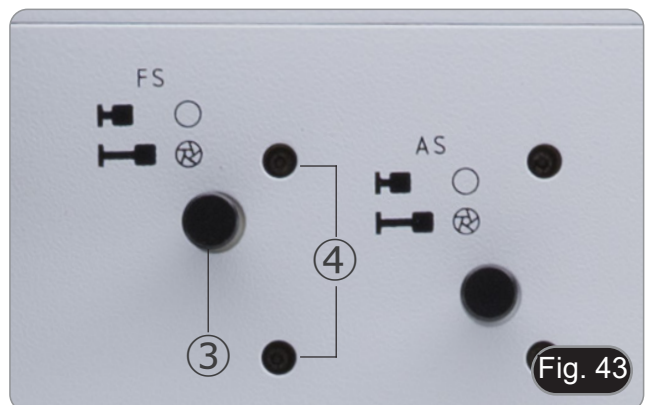
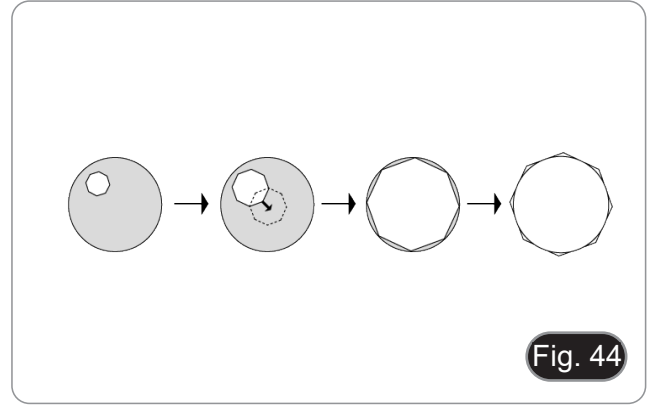

Fig. 43
Fig. 44
3. Completely pull out the field diaphragm selector ③ to fully close the diaphragm. (Fig. 43)
4. Using the provided Allen wrench use the two centering screws ④ to bring the bright spot in the centre of the field of view.
5. Gradually open the diaphragm. The condenser is centred when the diaphragm image is symmetrical to the field of view. (Fig. 44)